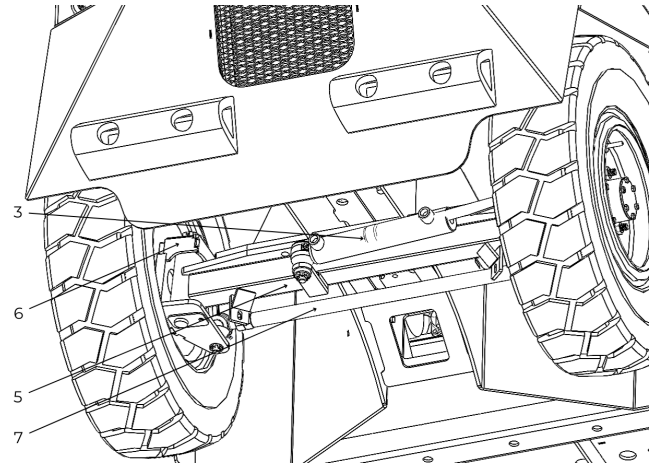

Figure 32. General Steering Inspection.
- Steering cylinder (3). (See Figure 32)
- Axle beam (5). (See Figure 32)
- Right and left knuckles (6). (See Figure 32)
- Tie rod (7). (See Figure 32)